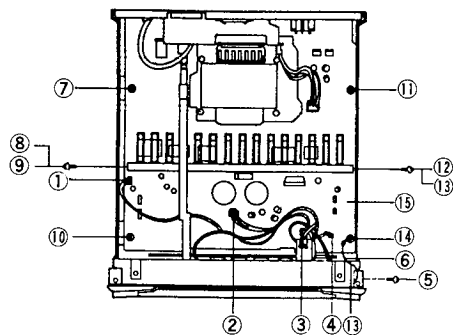

Fig. 5
2. Remove connectors ① to ④ in Fig. 5
3. Remove screws ⑤, and then untie the ground wire ⑥ in Fig. 5
4. Remove screws ⑦ to ⑬, and then remove the main pcb-15